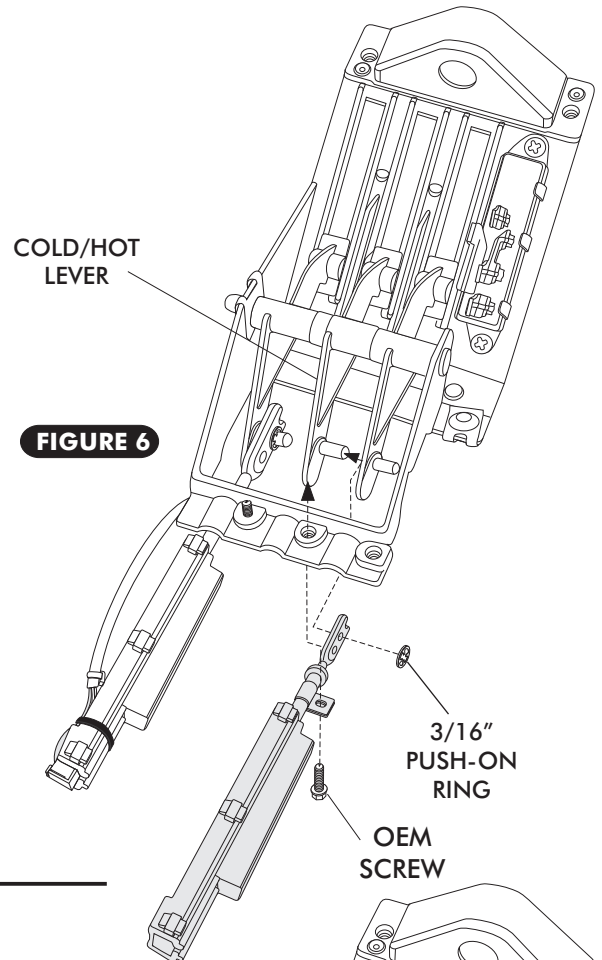

FIGURE 6
- ❑ INSTALL SLIDE POT ASM ON THE COLD/HOT LEVER. SEE FIGURE 6 BELOW.
- ❑ INSTALL SLIDE POT LEVER PUSH ROD ONTO OEM CABLE MOUNTING STUD ON LEVER. SEE FIGURE 6 BELOW.
- ❑ SECURE THE SLIDE POT ASM TO THE CONTROL PANEL USING THE OEM SCREW IN THE OEM CABLE CLAMP MOUNTING LOCATION. SEE FIGURE 6 BELOW.
- ❑ SECURE SLIDE POT LEVER PUSH ROD ONTO OEM CABLE MOUNTING STUD USING 3/16" PUSH-ON RING AS SHOWN IN FIGURE 6 BELOW.